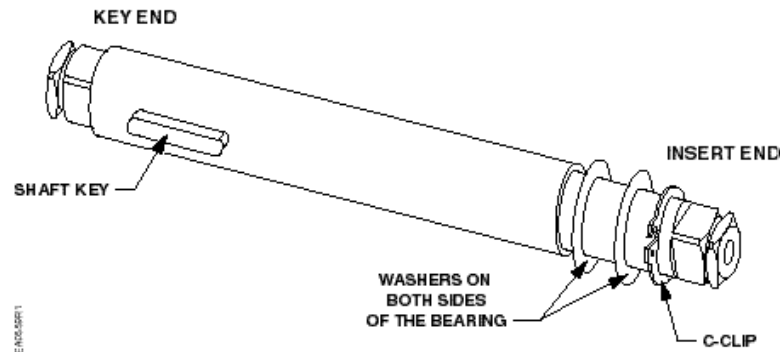

Figure 4.
- Each shaft is supplied with two washers and a “C” clip. See Figure 4. Using spreading pliers, remove the “C” clip and the washers from the shaft.